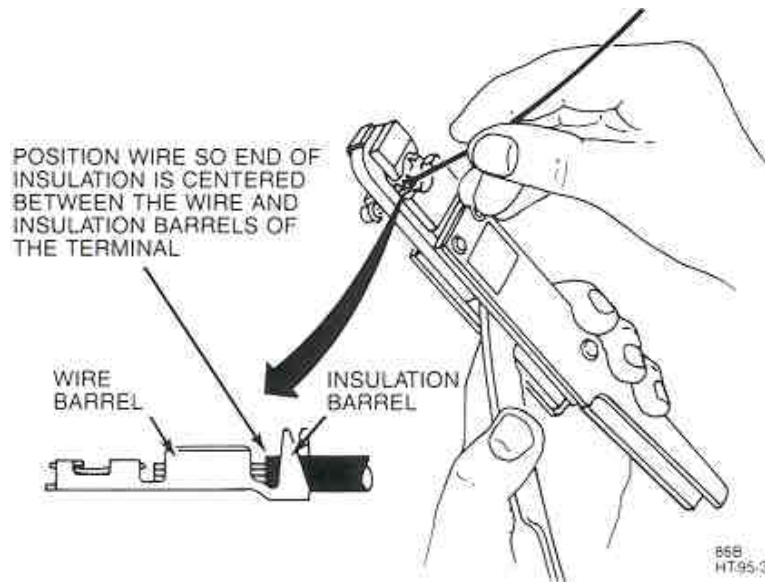

Figure 3. Crimping Terminal to Wire
3. While grasping the lever and the handle portion of the frame, insert a wire so that the end of the insulation is centered between the wire barrel and the insulation barrel of the terminal (see Figure 3), and then close the hand tool lever completely. This will crimp the terminal to the wire(s).